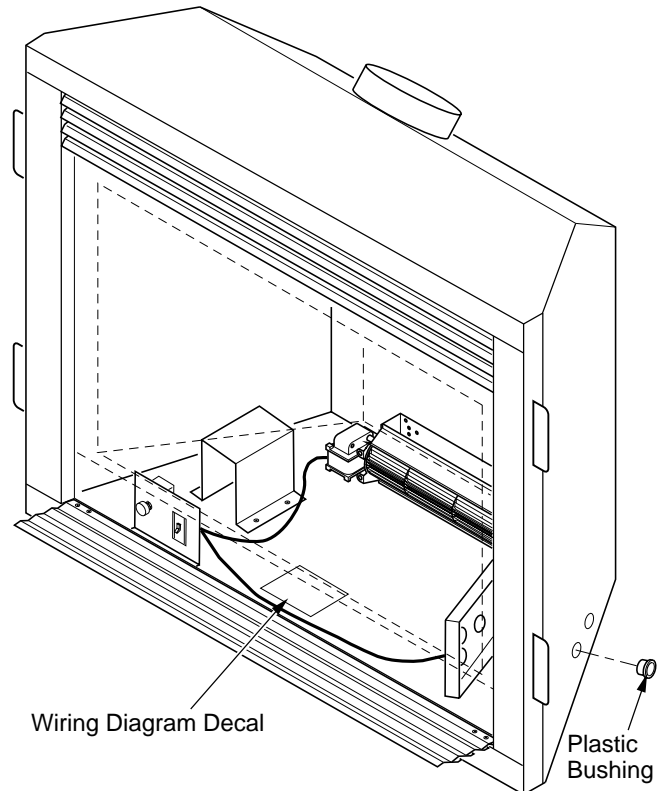

Figure 26 - Installing Plastic Bushing for Power Cord and Locating Wiring Diagram Decal
- a. **If your fireplace system is installed as a freestanding unit with an accessory mantel,** determine whether the power cord will exit the left side or the right side of the firebox. Install one plastic bushing (provided) into the 1 1/2" hole in the outer casing through which the power cord will exit. Install the second plastic bushing (provided) into the floor support bracket if exiting through the right side (see Figure 26, page 11). Route power cord through (both) plastic bushing(s) and plug the power cord into a properly grounded 3-prong wall receptacle near the firebox.
12. Peel off the backing paper and stick the supplied wiring diagram decal on the outer casing bottom approximately 3" to the right of the blower speed control (Figure 26).